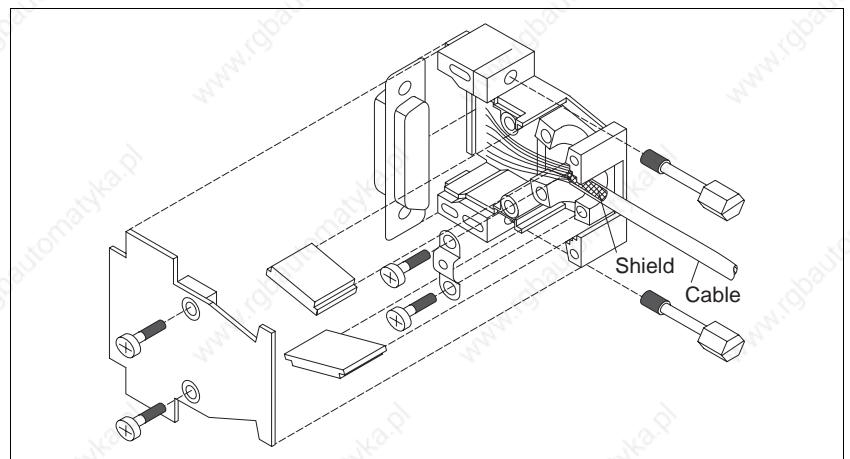

Fig. 2-10 Signal connector assembly - device end
3. Insert two hexagon head bolts (fig. 2-10) into the connector shell.
8. Fasten the connector to the front panel (item 57) with screws.